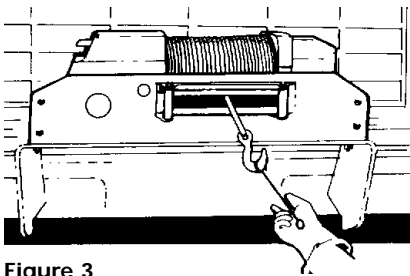

Figure 3
- KEEP CLEAR OF WINCH WIRE ROPE AND HOOK WHEN OPERATING WINCH. NEVER put your fingers through the hook when reeling in or out the last few feet of rope near the hook. If your finger should become trapped in the hook, you could lose your finger. Use the HANDSAVER BAR (Figure 3) to guide the hook within the last few feet. Never guide a wire rope onto or off the drum with your hand.
- Your Husky 10 winch wire rope has a ten-foot red "safety stripe" on each end. The "safety stripe" at the end of the wire rope that attaches to the drum warns you that the wire rope is almost completely payed out. DO NOT use the winch for this last ten feet of wire rope since the wire rope end fastener will NOT support a heavy load. The "safety stripe" at the hook end of the wire rope warns you that the wire rope is almost rewound. ALWAYS USE THE HANDSAVER BAR when handling the hook (Figure 3). As you use your winch, the red paint will wear off due to normal wear. When this happens, you should renew the red paint as it is a safety feature of the winch.